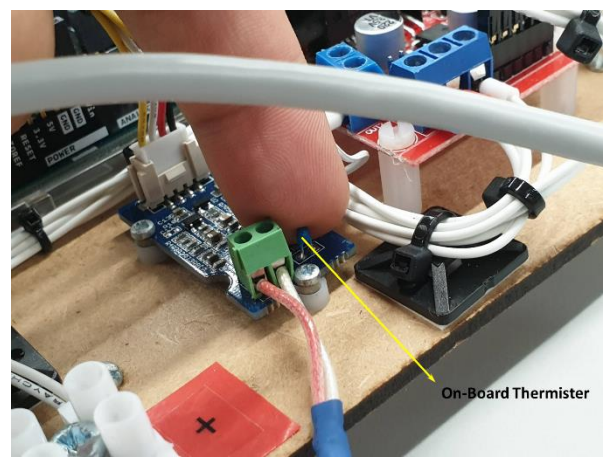

Figure 14 Location of on-board thermistor on Temperature Sensor Board (and how you can test it by placing your finger)
12. You can test the sensor by placing a finger on the thermistor (it is the blue “bulb” like feature on the Temperature Sensor Board – see Figure 14). You should see the temperature rise on the Serial Monitor.